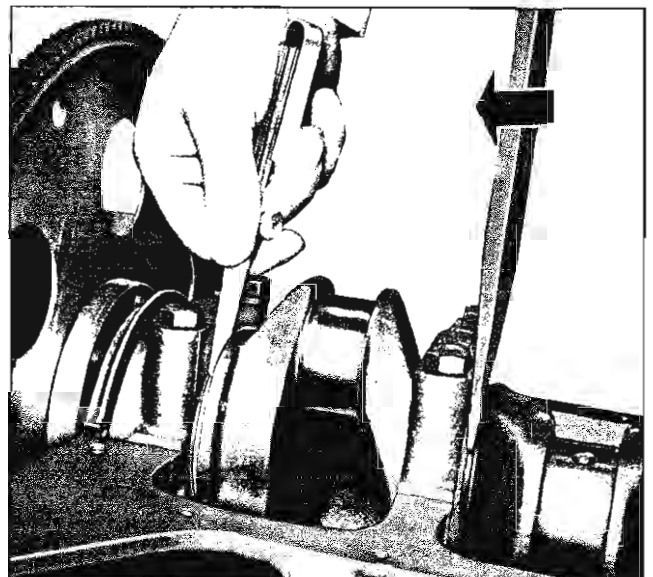

Fig. 51—Measuring Crankshaft End Play
9. Check the end play by forcing the crankshaft to its extreme front position. Check at the front side of the rear main bearing with a feeler gauge (fig. 51). This clearance should be from .002" to .006".